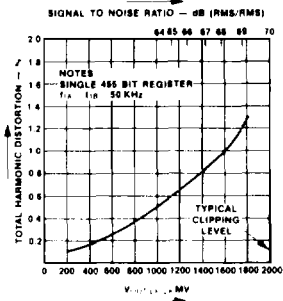

Fig. 6
- Input Signal =  $1\text{ kHz}$  sine wave. See Figure 6.
- Audio S/N is defined as the ratio of RMS signal to RMS noise at  $23\text{ kHz}$  bandwidth. Both are measured with an HP3400A RMS Voltmeter. See Figure 6.